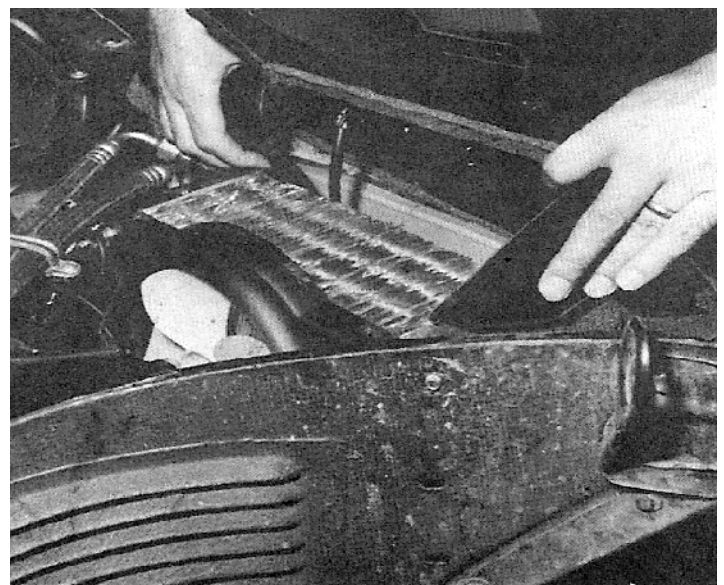

FIG 10
3. Referring to FIG: 10 place condenser in fender well. Insert (1) #10 x 1/2" sheet metal screw through upper slot hole in fender well panel line-up with hole in condenser bracket and torque only slightly. Now push condenser back, so that the plastic housing rest against the chassis member. Attach black ground lead of condenser motor and the condenser to the chassis frame using (1) #10 x 1/2" sheet metal screw. Now torque the sheet metal screw in fender well panel.
4. Clamp freon hoses to chassis frame using (2) oval hose clamps see FIG: 10 & 11.